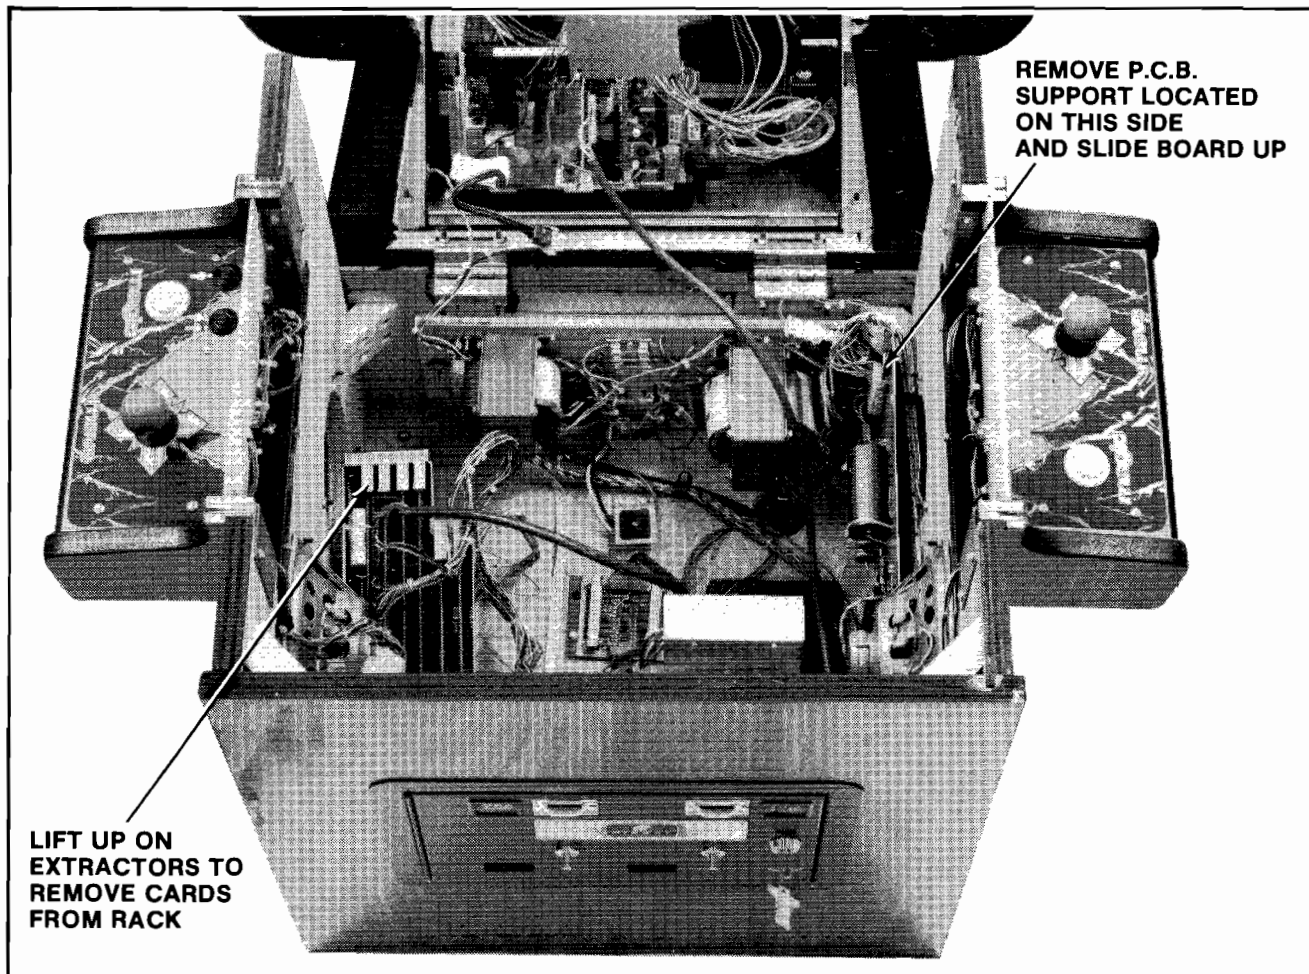

Figure 2-25 Removing Printed Circuit Boards - Cocktail
**2.8.3 COCKTAIL TABLE MODEL:** (See Figure 2-25) (Cont'd)
- ❑ To remove the power supply board. See Figure 2-25.
- ❑ To remove the PCB's from the commercial card rack. See Figure 2-25.